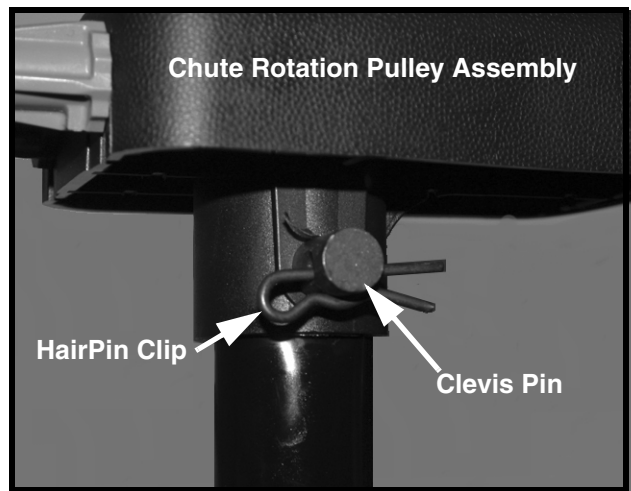

FIGURE 5
12. Remove the chute rotation pulley assembly from the support tube by removing the hairpin clip and clevis pin. See Figure 5.